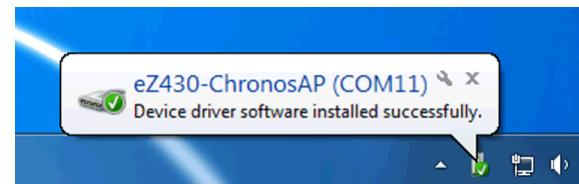

**Figure B-2. Successful Driver Installation for Access Point**
2. The driver installation wizard shows if the driver is successfully installed (see Figure B-2)